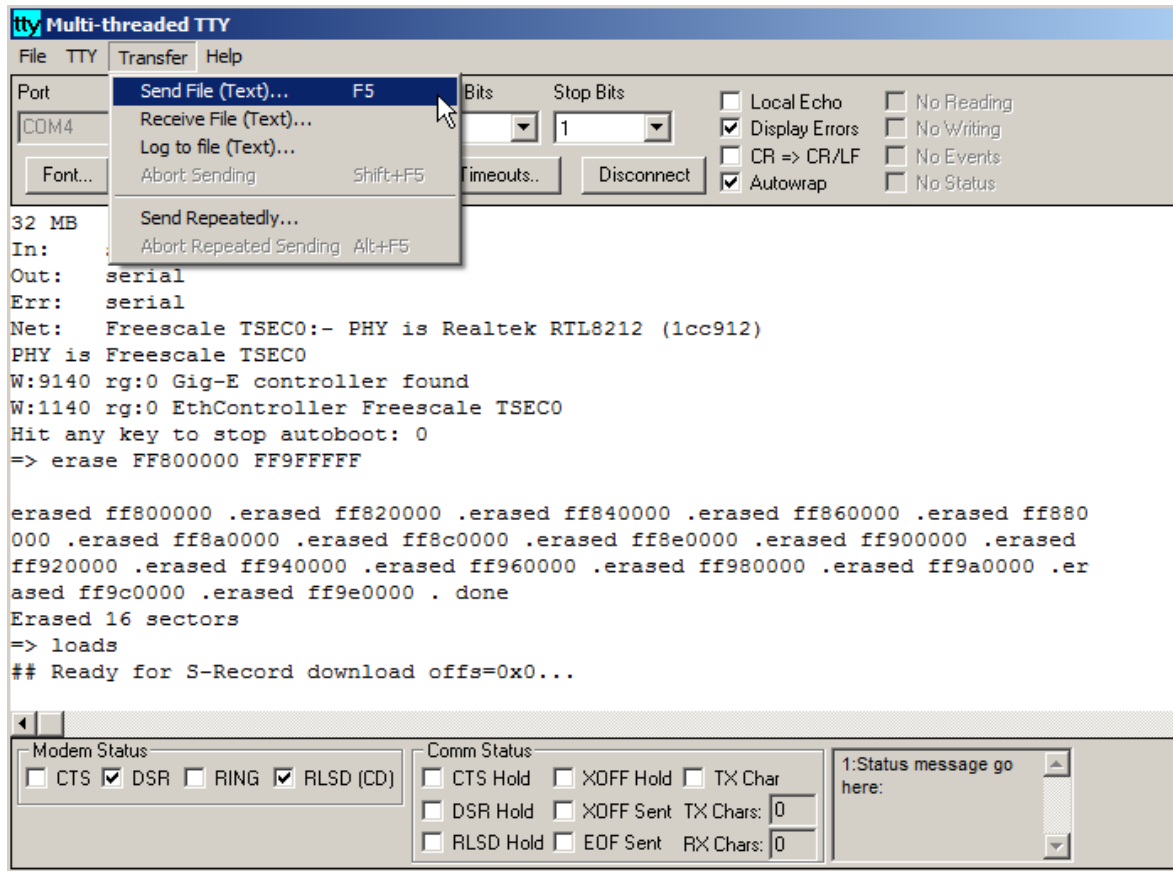

Figure 4-12. Firmware Update via Serial Port
STEP 5: Type the commands shown below to erase firmware storage area in the Flash memory and load the new firmware (refer to Figure 4-12):
STEP 6: Do the following to transfer the Motorola firmware image file (refer to Figure 4-12):